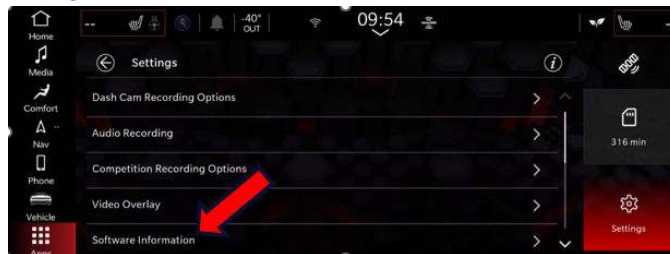

Fig. 5
10. Click on Software Information Fig. 5.